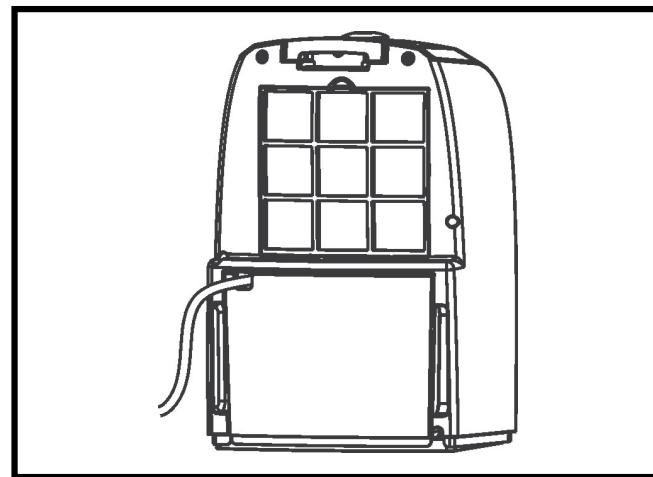

Fig. 6
4. Put the water tank back to its position (FIG. 6).